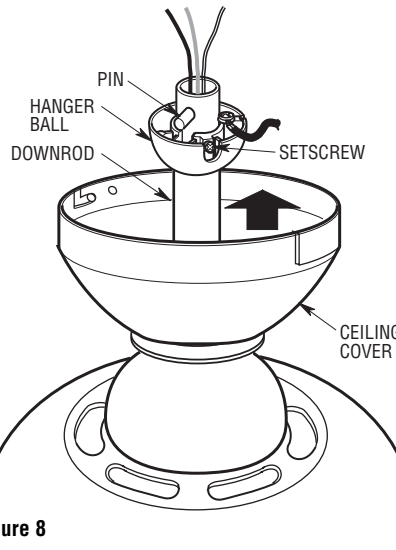

Figure 8
- 4. While pulling up on the downrod, □ 7. Reinstall the hanger ball (Figure 8) on the downrod as follows. Route the motor leads through the downrod. Position the pin through the two holes in the downrod and align the ball so the pin is captured in the groove in the top of the hanger ball. Pull the hanger ball up tight against the pin and securely tighten the setscrew in the hanger ball. A loose setscrew could create fan wobble.